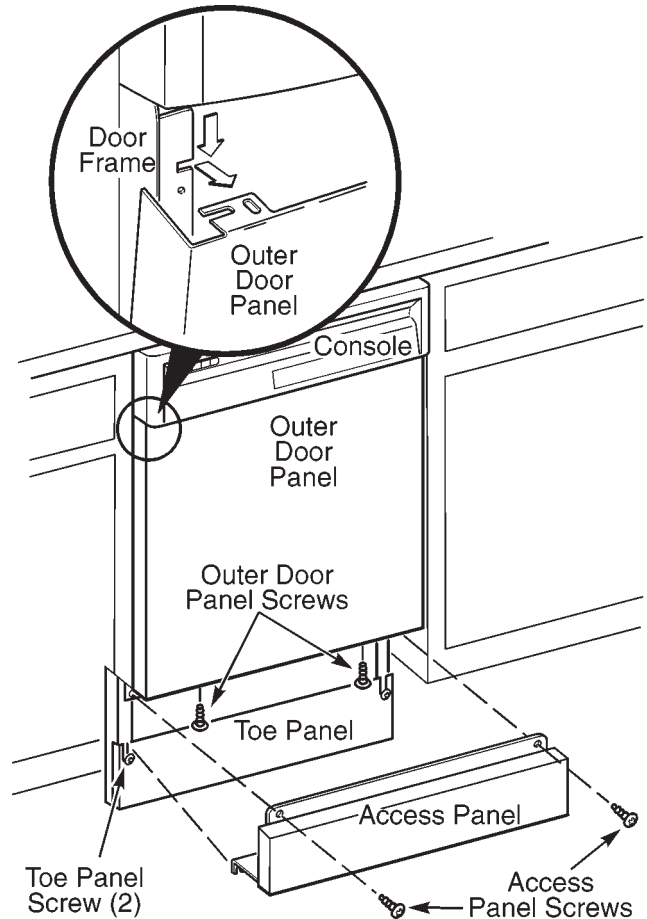

Fig. 2-11
1. Loosen but do not remove the two (2) toe panel screws below the access panel. Remove and set aside the two (2) screws above the access panel. (Fig. 2-11)
2. Remove the access panel assembly by sliding it upward to clear the loosened screws. (Fig. 2-11)
3. Remove the two (2) screws from the bottom of the outer door panel. (Fig. 2-11)
4. Pull the bottom of the outer door panel outward and slide it down approximately  $\frac{1}{4}$ " to  $\frac{1}{2}$ ". The panel will then be free for removal. (Fig. 2-11, inset)